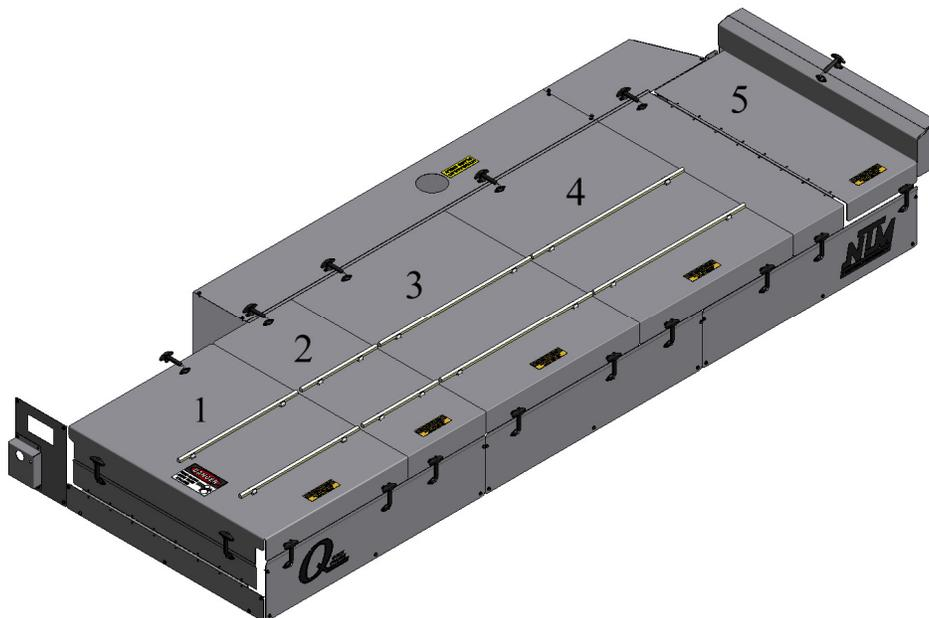

Figure 40: Remove Top Covers
1. Remove Top Covers number 1, 2, 3, 4, and 5 (Figure 40) and set aside.